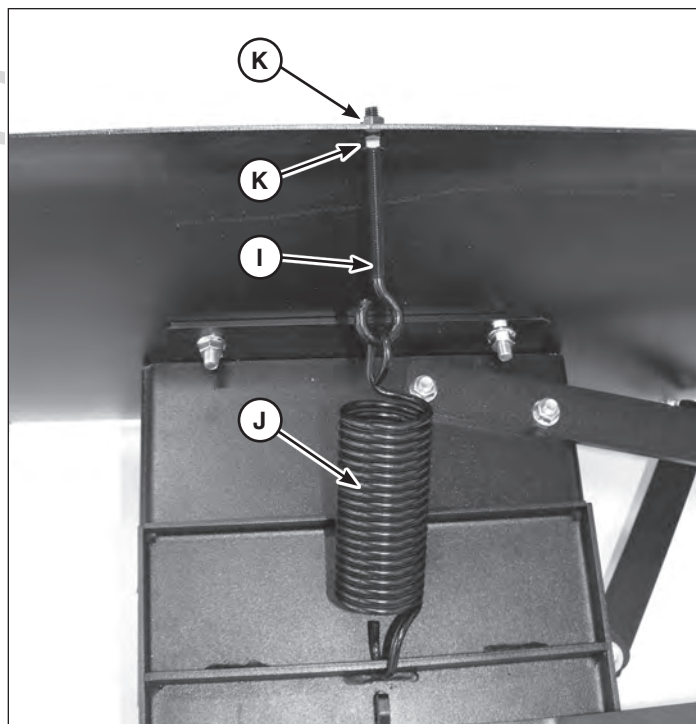

Figure 12
7. Install nut (**K**, Figure 12) approximately .75" onto eye bolt (**I**).